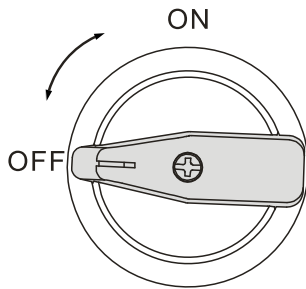

Figure3-39 Schematic diagram of DC switch OFF state
- Step 1 Confirm that all DC switches on the inverter (location is shown as ② in Figure3-39) are in the OFF state.